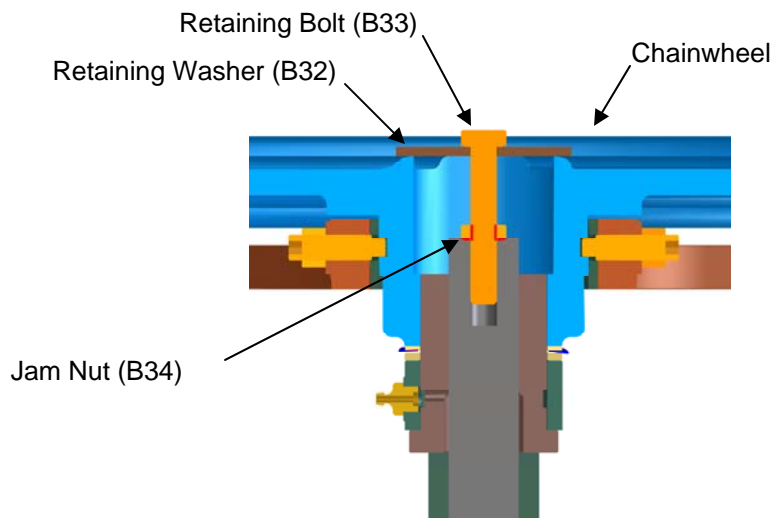

FIGURE 3—Detailed View of Chainwheel Retaining Components on 2-12" Valves
7. As shown in Figure 3, insert the large hex-head retaining bolt (B33) through the 2.5-inch retaining washer (B32) and stake the washer to the head of the bolt. This keeps the washer from sliding down the shaft of the bolt when the valve is open (when the stem is extended upward).